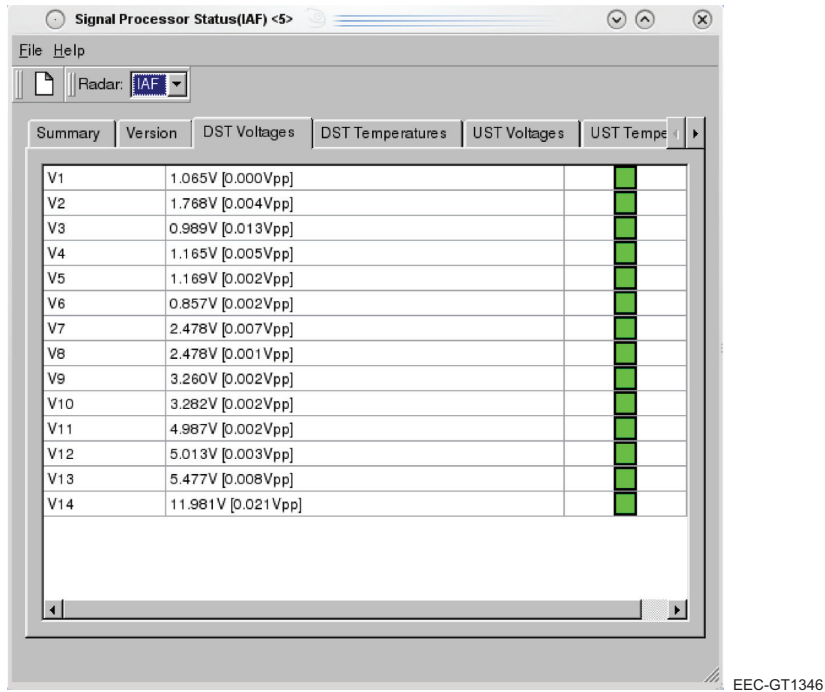

Figure 4. Signal Processor Status DST Voltages Tab
3. On the DST Voltages tab, verify all voltages are within specified limits and the corresponding indicator is green. See Figure 4.